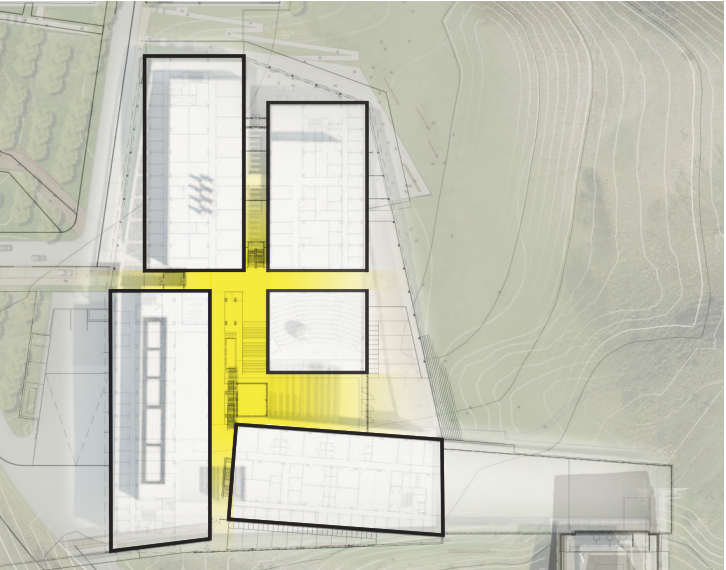

Figure.2
- Connecting building occupants to exterior views and sunlight increases productivity, creativity and general well-being as well as a decreased reliance on artificial lighting (Figure.2&3)